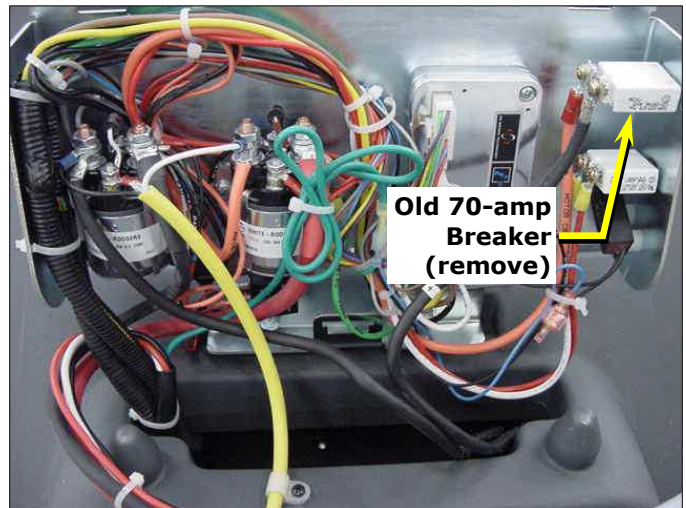

Figure 28 – Old 70-amp Breaker on Electrical Panel
3. See Figure 28. Disconnect the wires from the old 70-amp circuit breaker and remove the breaker from the electrical panel.